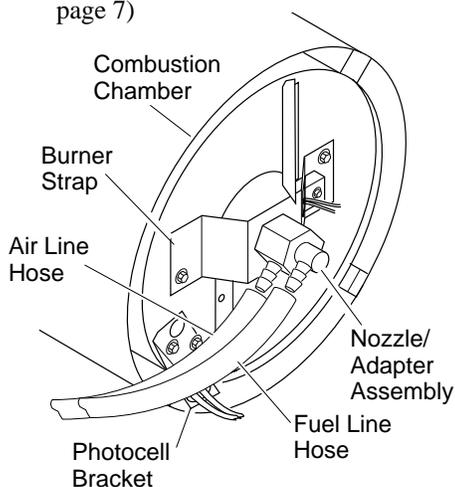
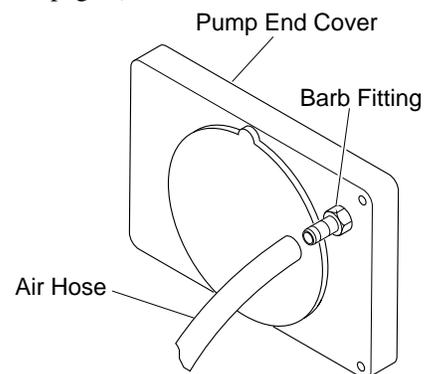

Figure 12 - Removing Air and Fuel Line Hoses (115,000 Btu/Hr Models Only)
Figure 16 - Air Hose to Barb Fitting
3. Remove fuel and air line hoses from nozzle assembly (see Figure 12 or 13).
4. Inspect fuel and air line hoses for cracks and/or holes. If fuel line hose is damaged, disconnect from nozzle adapter (see Figure 12 or 13) and from fuel filter (see page 8). If air line hose is damaged, disconnect from nozzle adapter (see Figure 12 or 13) and from barb fitting on pump end cover (see Figure 16).
5. Install new air and/or fuel line. Attach one end of air line hose to barb fitting on pump end cover (see Figure 16) and the other end to nozzle adapter (see Figure 12 or 13). Attach one end of fuel line hose to fuel filter (see page 8) and the other end to nozzle adapter (see Figure 12 or 13).
For 115,000 Btu heater, route air and fuel line approximately as shown in Figure 12.